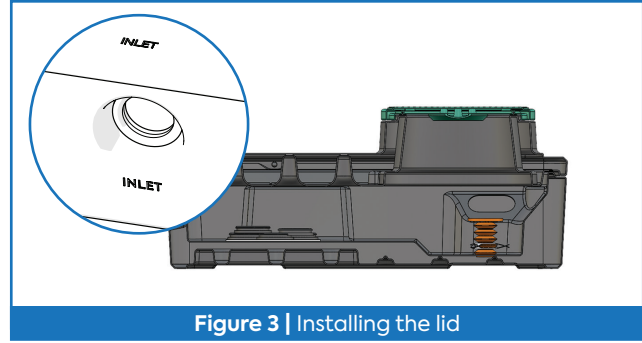

Figure 3 | Installing the lid
**WARNING** – Ensure that the main access is directly above the doser and that the two inlet labels are aligned, as shown in figure 3.